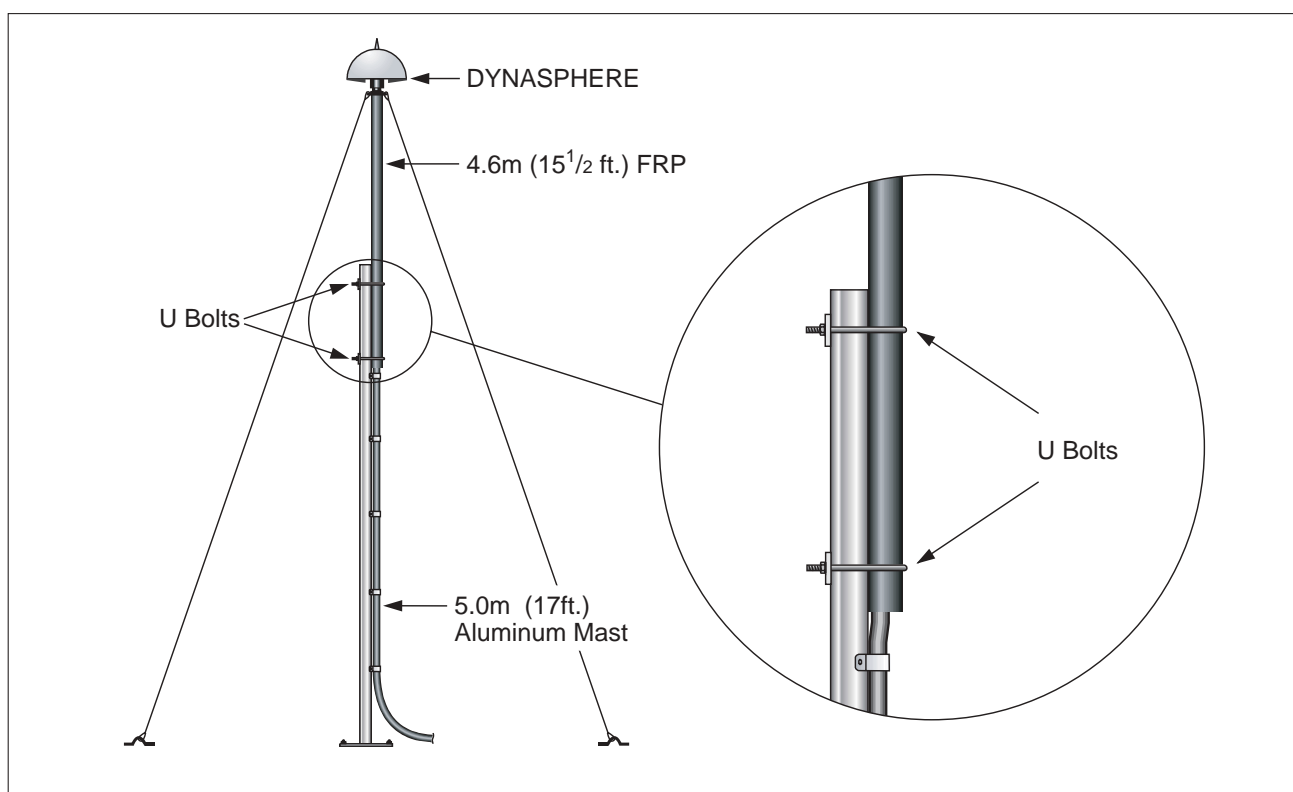

Figure 29: Use of U-Bolts
1. The U-Bolt set, which uses two stainless steel U-bolts to clamp the two sections of mast together. See Figure 29.